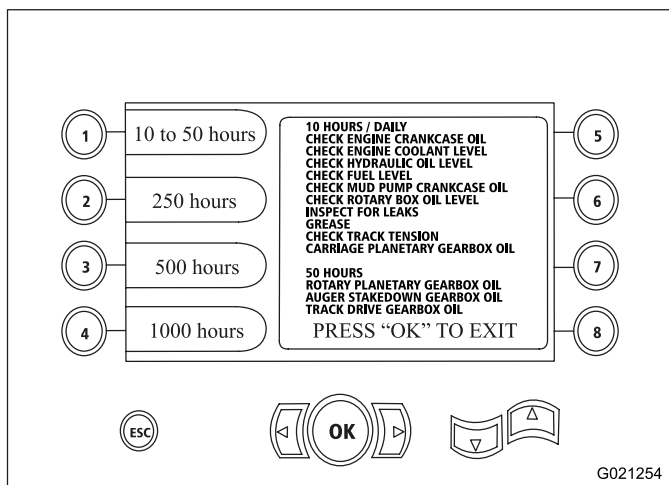

Figure 24
- Button 1—10-hour and 50-hour maintenance schedule (Figure 24)